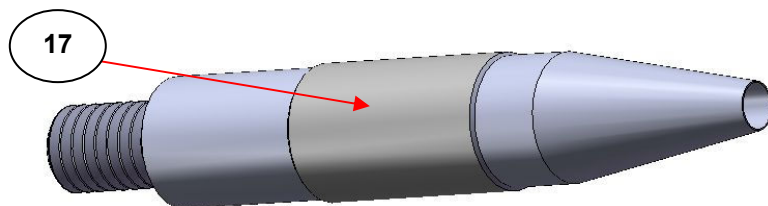

Fig 12. Flushing Tube Used to Clean GS20500 and GS20510 Series Static Liquid Cells
Included with the GS20500 and GS20510 Series static liquid cells is an additional threaded flushing tube (17). (See **Fig 12**).